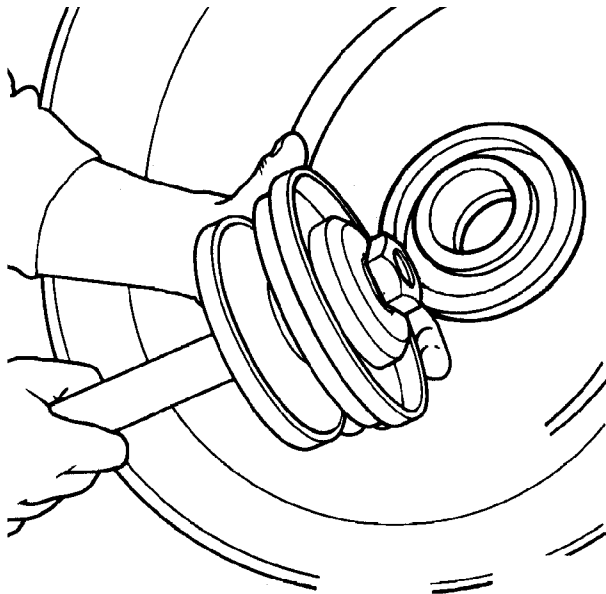

Figure 30 Seal In Recess of Tool Adapter
3. To install seal, place outer face of seal in the recess of the selected tool adapter (Figure 30).